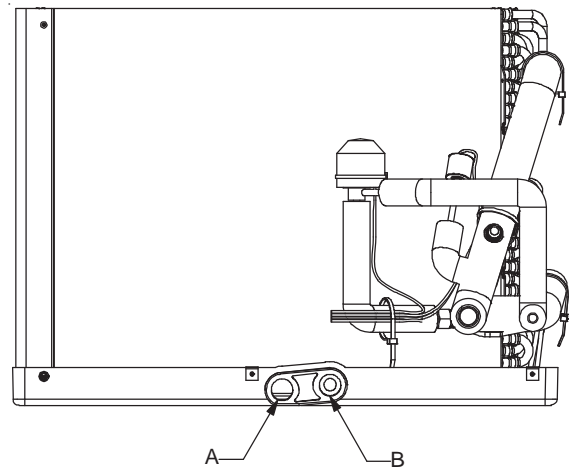

Figure 12
Condensate drain connections are located in the drain pan at the bottom of the coil/enclosure assembly see Figure 12. Use the female ( $\frac{3}{4}$ " FPT) threaded fitting that protrudes outside of the enclosure for external connections. The connectors required are ( $\frac{3}{4}$ " NPT) male, either PVC or metal pipe and must be hand tightened to a torque of no more than 37 in-lbs, to prevent damage to the drain pan connection. An insertion depth between .36 to .49 inches (3-5 turns) should be expected at this torque.
Drain port labeled (A) in Figure 12 is the primary drain and condensate drain line must be attached to this drain port.